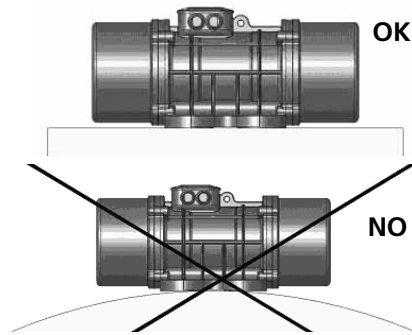

Figure 8
6. The mounting surface must be flat so that the vibrator feet rest uniformly and completely in contact with the mounting surface, to avoid internal stresses which can lead to breakage of the vibrator feet (Figure 8).